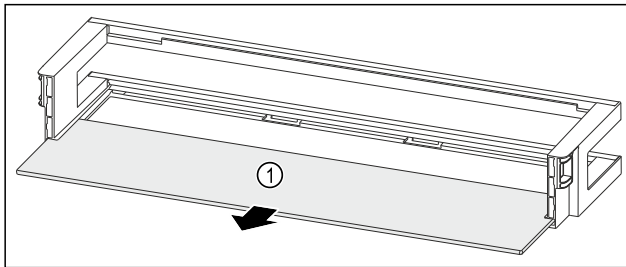

Fig. 132 Door racks with shelf
- Remove the shelf Fig. 132 (1).